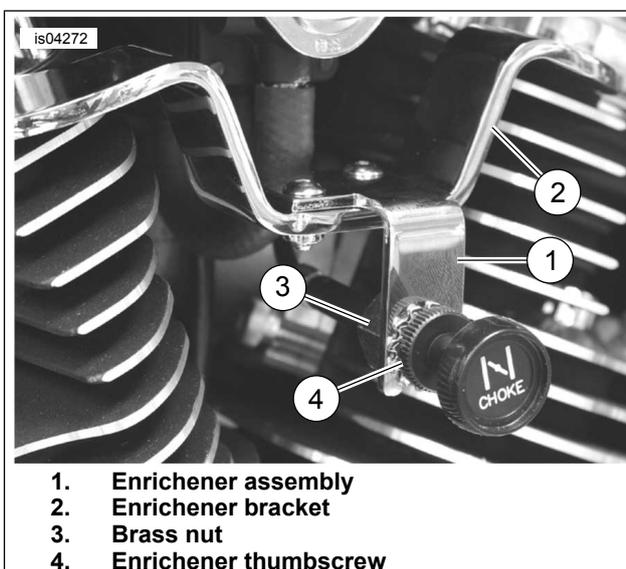

Figure 7. Install Enricher Assembly to Enricher Bracket (All Except 1200C)
8. **All Models Except 1200C:** See Figure 7. Install enricher assembly (1) to enricher bracket (2) by tightening the brass nut (3) up against the bracket. It may be necessary to turn enricher thumbscrew (4) until assembly is tight and is positioned correctly.